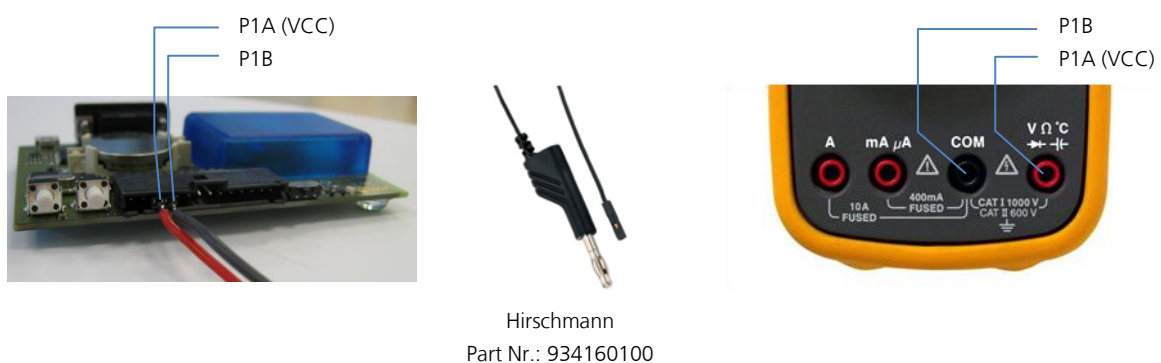

Figure 5: Example – tracking current measurement
For accurate measurements, it is recommended to use a cable of at most 1 meter in length. Figure 4 shows an example of a power supply connected to the test connector by using standard adapter cables from the manufacture Hirschmann. Figure 5 shows an example for overall current measurement.
1. Connect a true rms voltmeter across P1A (VCC) and P1B of the front connector (see Figure 5).